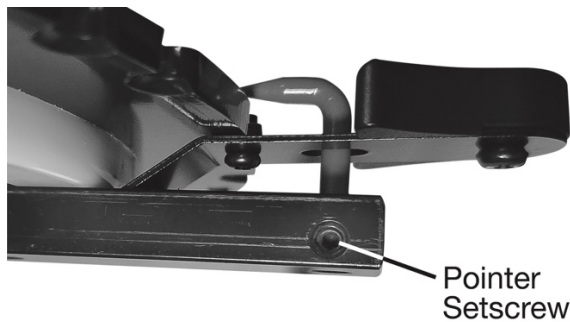

Figure 7-5
4. After squaring, if the red pointer (C) is not pointing at 0°, loosen the pointer setscrew (see Figure 7-5), rotate the pointer to 0°, and re-tighten the pointer setscrew.